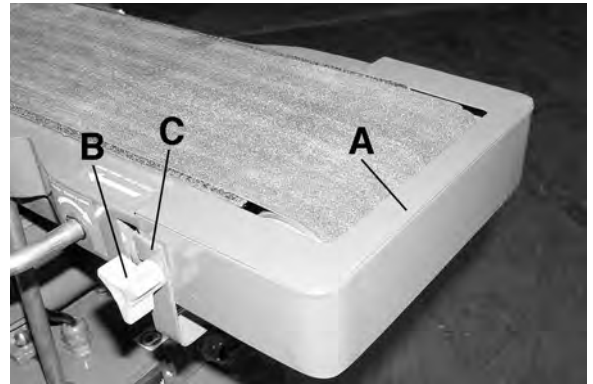

Figure 13
The belt table end safety guard (A) Fig. 13 is not installed and should be installed to ensure user safety during sanding operations. If you desire to make internal curve sanding which requires the use of the drum portion of the sanding belt, this end safety guard must not be installed. To install the end safety guard, follow these instructions:
1. Undo and remove the 2 lock knobs (B) on both sides of the belt table.
2. Slide the end safety guard (A) under the lower safety guard tabs (C).